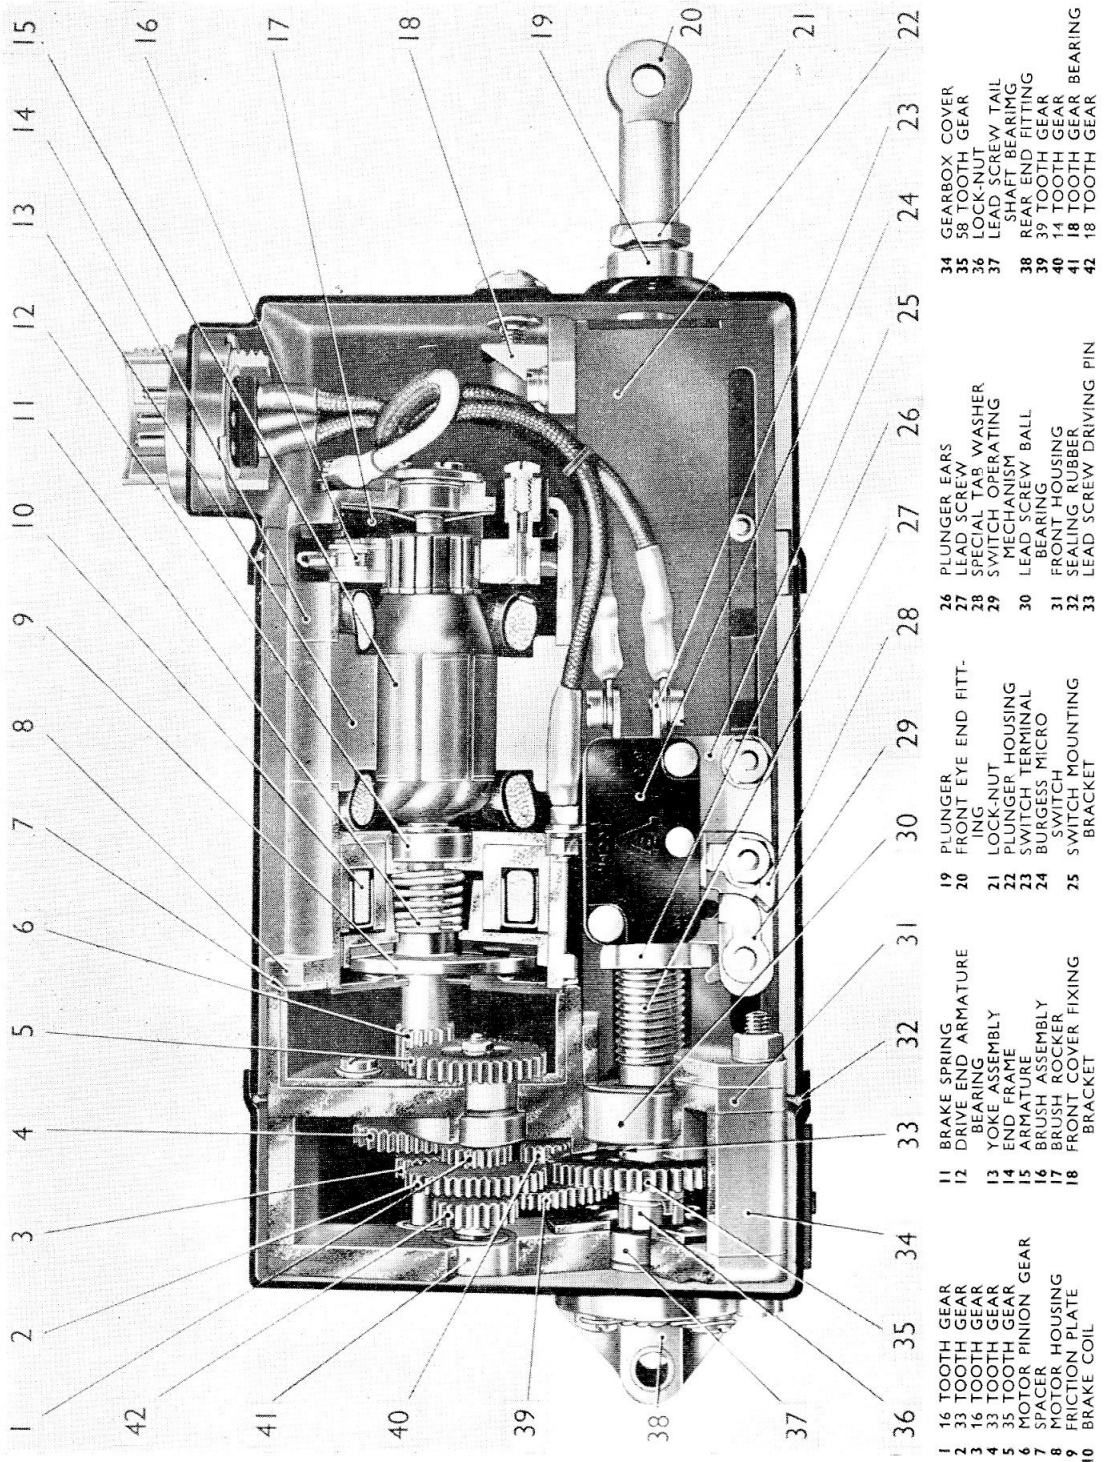

Fig. 2. Sectional view of actuator
3. Fig. 2 shows a sectional view of the actuator. The general construction is as described in the Appendix on Jaguar actuators, except that the gearbox is modified and no slip clutch is fitted; reference should be made to that Appendix for further information. The front cover casing carries a multi-pole plug for the electrical connections. The end fittings vary according to the function performed by the actuator.
6. The end fittings vary according to the function performed by the actuator; for these actuators they are as shown in fig. 2 and Table 1.